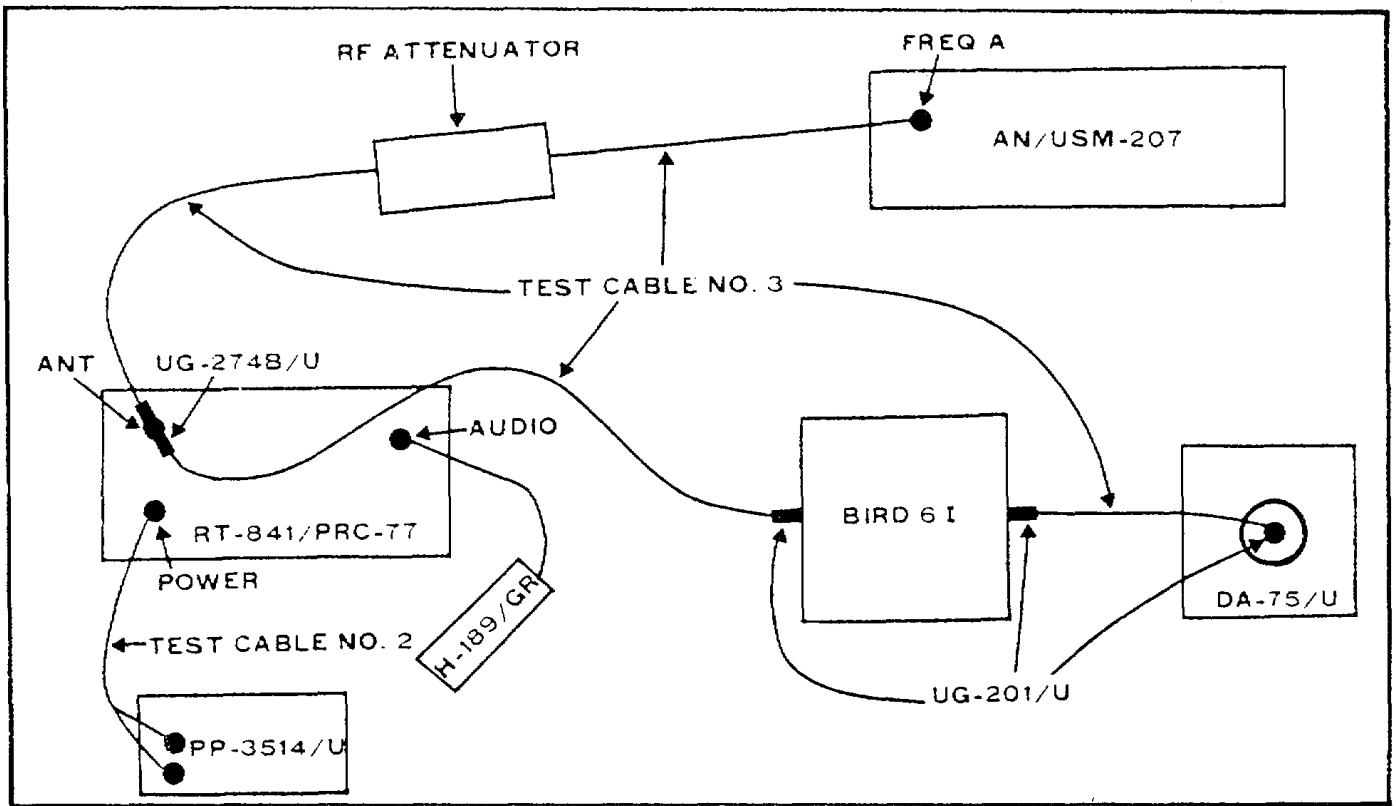

Figure B-13. Frequency Accuracy Test.
- (b) Connect the test equipment in accordance with figure B-13.
- (1) Sensitivity switch to "100 V" position.
- (2) Time base switch to "Gate Time (secx)-102."
- (3) Set function switch to "Freq."